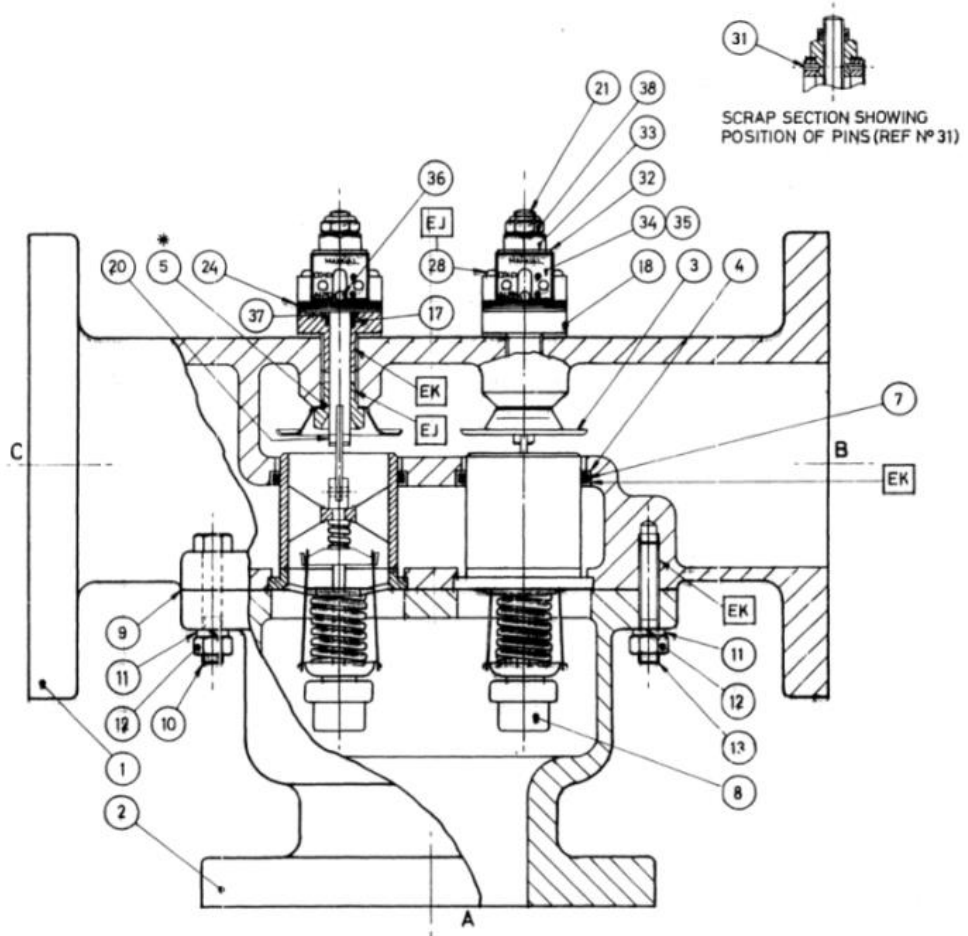
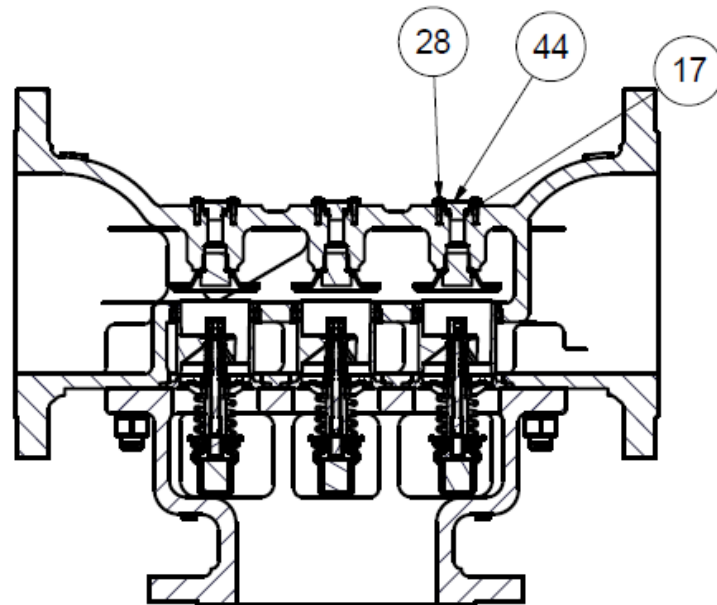

Figure 2 - Diagram showing 4" B valve with manual override
Figure 3 - Diagram showing 6" B steel valve without manual override
1. If emergency cooling is required then firstly loosen the locknut on the top of the override (reference Section 7.1, Figure 2, Item 38).
2. Turn adjusting nut (reference Section 7.1, Figure 2, Item 33) clockwise until indicator pin (reference Section 7.1, Figure 2, Item 36) has reached 'manual' position or desired cooling has been achieved then tighten locknut. Do not over adjust.
1. Refer to Figure 2. Remove housing nuts (Item 12) and split valve. Remove the lower housing (Item 2) taking care not to damage the elements. Remove and discard housing gasket (Item 9) ensuring any traces of the gasket are removed from the housing mating faces. Note that in some sizes of Model B Valves 'O' rings are used instead of gaskets.
5. Carefully remove the indicator pin (item 36).
7. Remove override housing retaining screws (item 28). For 5", 6" and 8" steel BO valve, remove cap plate (item 44 on Figure 3) and go to step 10.
10. Remove 'O' rings. For BR valve, 5", 6" and 8" steel BO valve, item 7 & 17. For other BO valve, item 7.